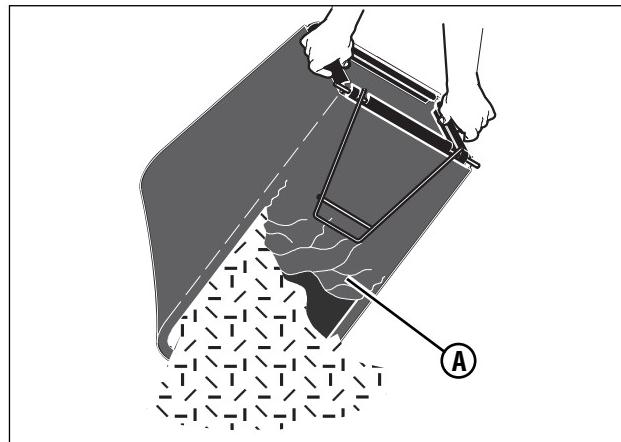

Figure 9: Emptying the grass bag
- Open the top cover (**A**, **Figure 9**). Empty the grass from the grass bag.